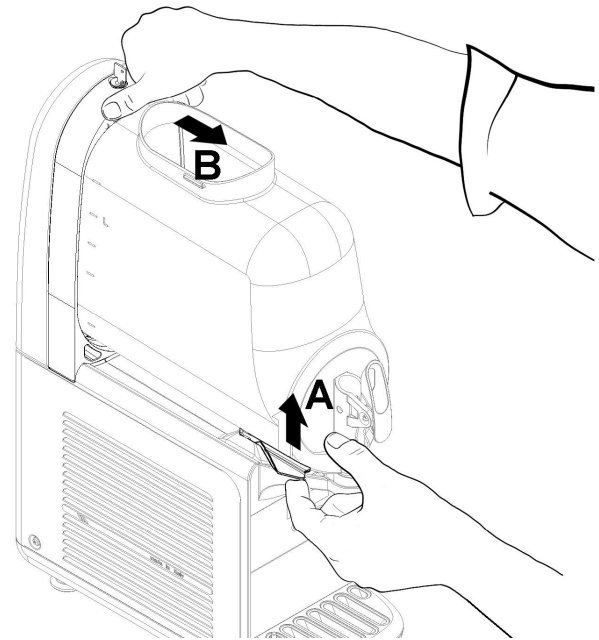

figure 8
- 2 To remove the container, push the lever upwards (see figure 8) and then remove the container itself (see figure 9).